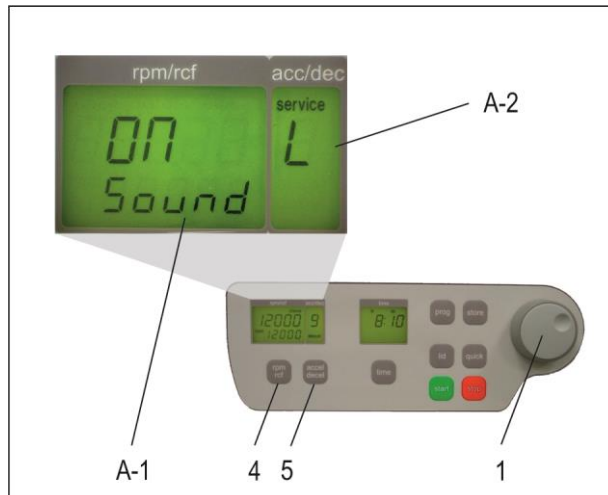

Figure 7
Proceed as illustrated, under point 1.8.1, to enter this program mode, press the key; "accel/decel" (5). In the display, "accel/decel" (A-2) flashes the word, "service". Select the letter, "L" with the adjustable knob (1). As a result, appearing in the display "rpm/rcf" (4), are the words, "On Sound". By pressing the key, "rpm/rcf" (4), the word "On" flashes, and the sound can be switched off with the adjustable knob (1), (see Figure 7).